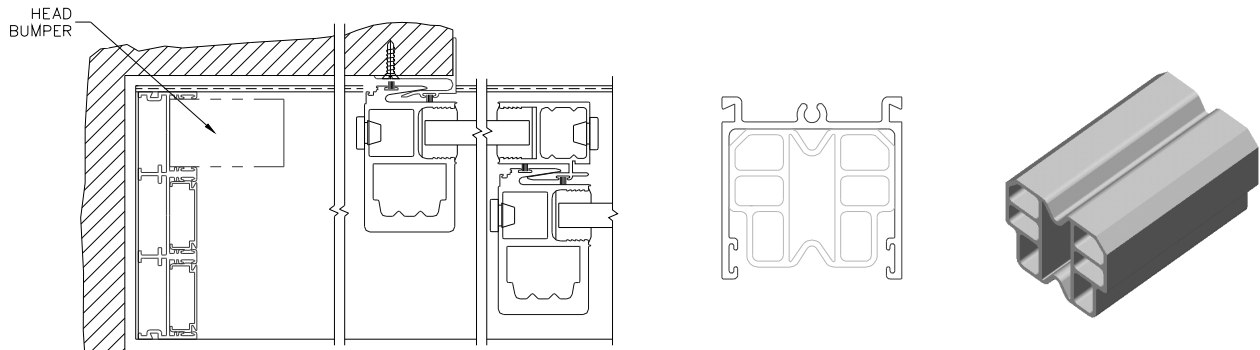

Figure 22:
- Install black rubber bumper in the frame head as shown below (Figure 22).